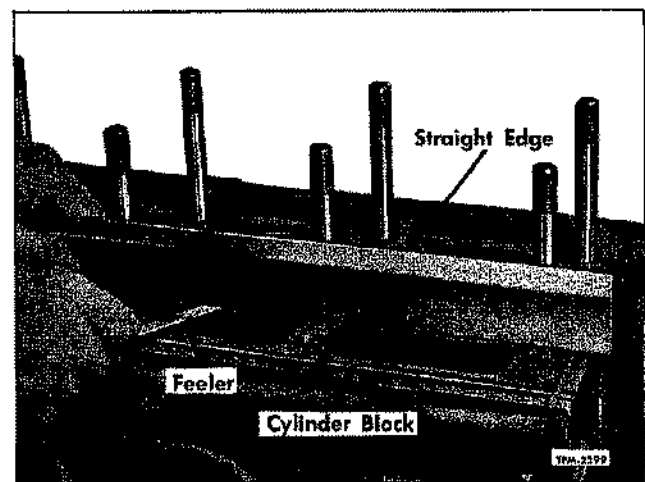

Figure 5—Checking Top of Cylinder Block
2. Check flatness of block using straight edge and feeler in manner illustrated in figure 5. Top of block should not vary more than .003" transversely or longitudinally more than .007" for the 4-71 and .009" for the 6-71 engines.